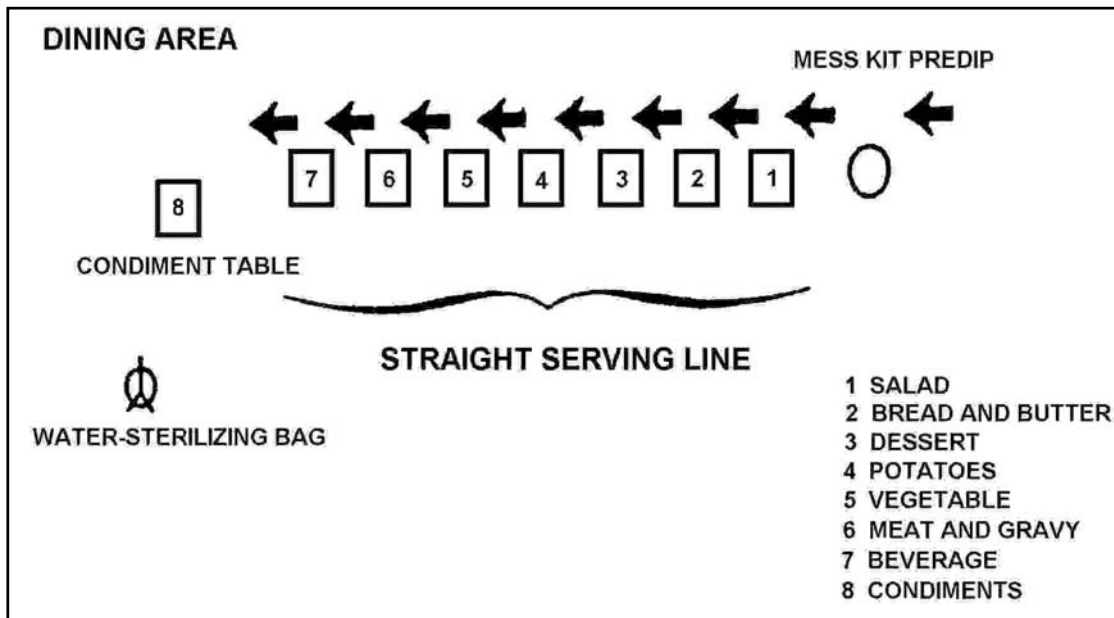

Figure 3-32. Serving Lines When Attack is Unlikely
- (2) One-way straight (see Figure 3-32).